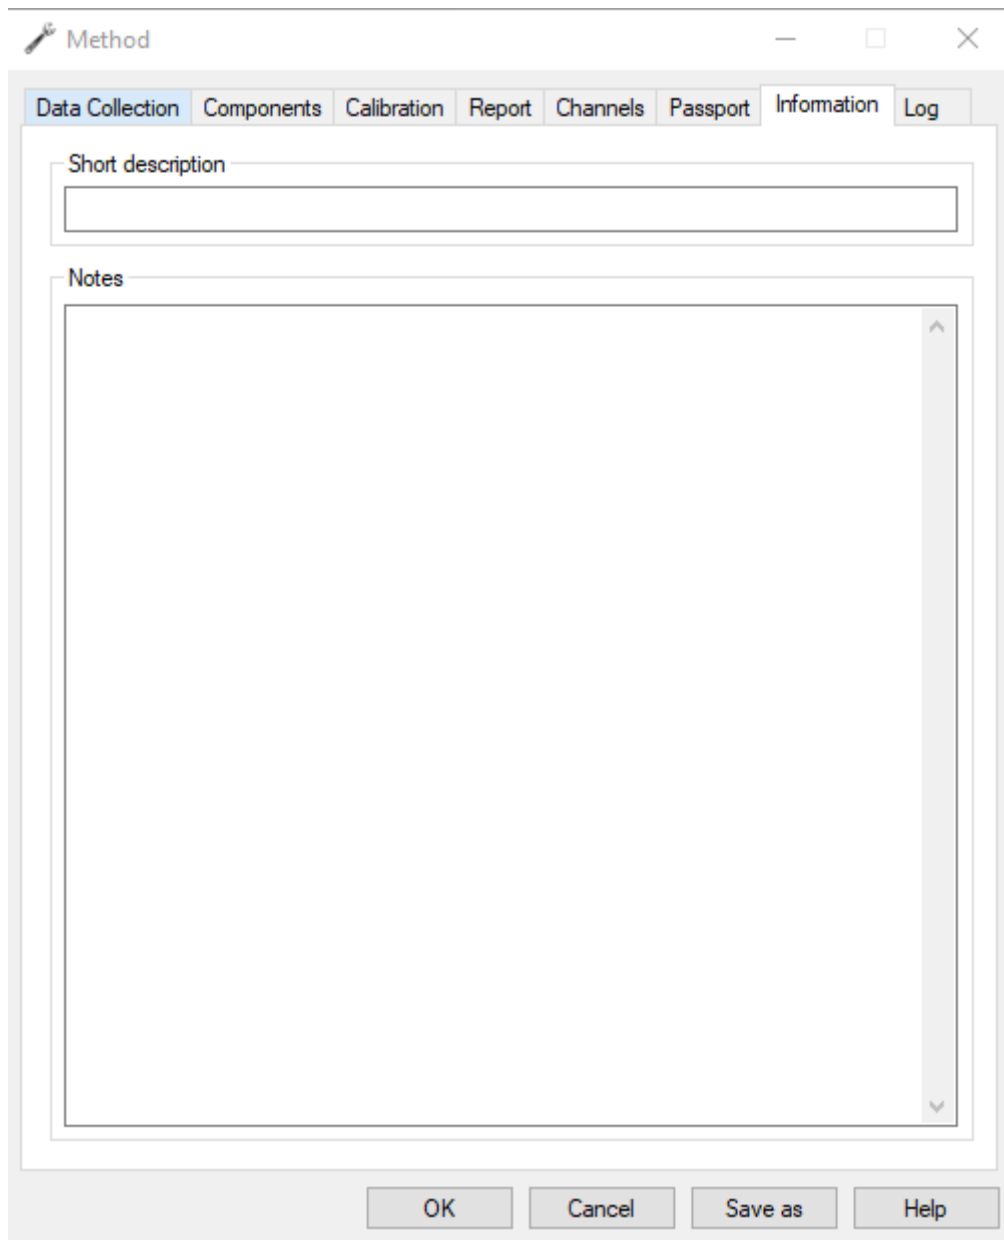

Fig. 39: Method > Information
8. In the *Information* tab (Fig. 39), specify information about the method: